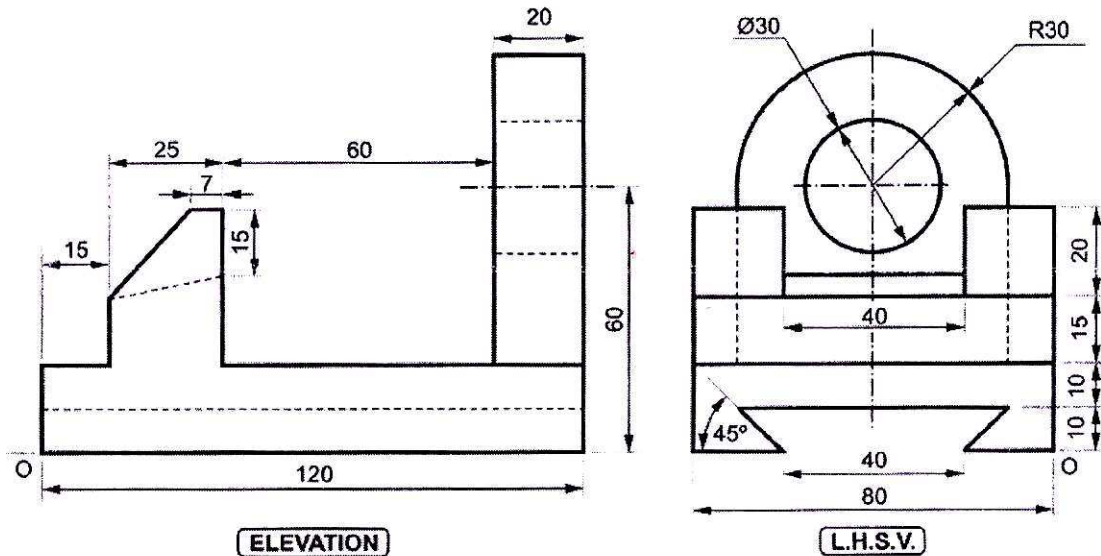

Fig. 5
7. The following Fig. 5 shows LHSV and elevation of object according to first angle projections method draw its Isometric View. Retain all the construction lines and construction you have made. [17+3=20]